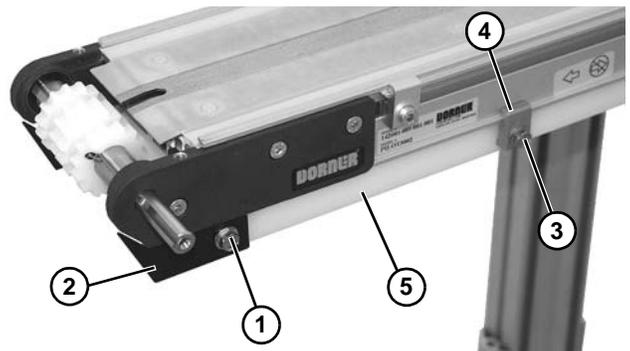

Figure 57
2. Remove screw (Figure 57, item 1) and sag guard plate (Figure 57, item 2).
3. Remove screw(s) (Figure 57, item 3) from each retaining clip (Figure 57, item 4), and remove lower wear strip (Figure 57, item 5).